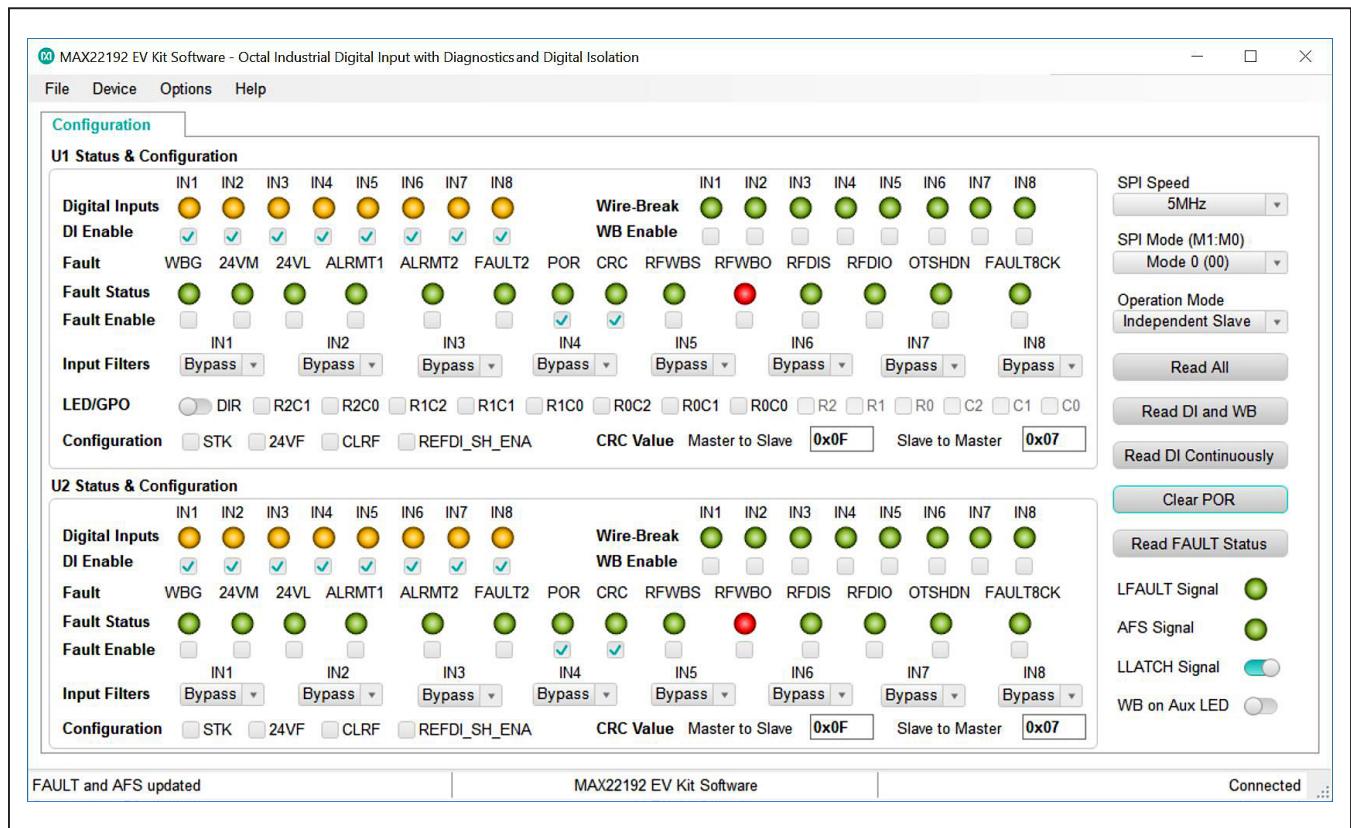

Figure 3. MAX22192 EV Kit Software—Clear POR
- 13) Click **Clear POR** button. Observe that **POR** status lights for U1 and U2 are changed to green, and the **FAULT Signal** status light is also changed to green in the **Configuration** tab as shown in Figure 3.
After power up, the MAX22192  $\overline{\text{LFAULT}}$  pin is low and the POR bit in the FAULT1 register is set, indicating that a power-on-reset has happened and all registers are set to default (Figure 2). After clicking the **Clear POR** button, the GUI clears the POR bit in the FAULT1 register. The  $\overline{\text{LFAULT}}$  pin is pulled high and FAULTB1 and FAULTB2 LEDs are turned off after clearing the POR (Figure 3).